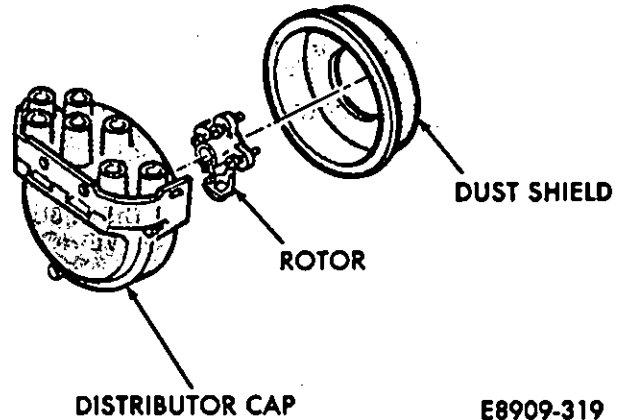

Fig. 4—Distributor Cap/Rotor/Dust Shield
- (2) Install rotor (Fig. 4).
- (3) Tighten the rotor mounting bolts to 3 N·m (26 in-lbs) torque.
- (4) Install distributor cap (Fig. 4).
- (5) Tighten the distributor cap mounting bolts to 4 N·m (35 in-lbs) torque.